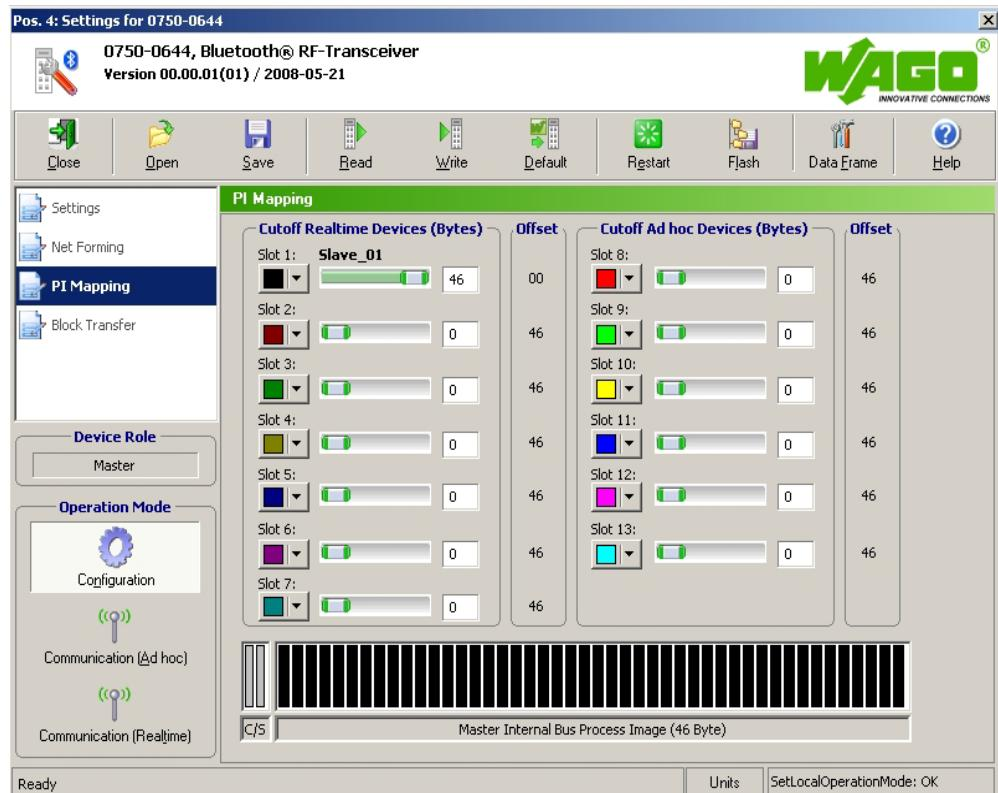

Figure 51: PI Mapping
Start with point 3 while the *Bluetooth®* parameterization dialog (siehe Figure 51) is still open.
4. Move the ruler for the first slave to the right so that the first slave is assigned the maximum possible number of bytes in the process image of the master (see Figure 51).